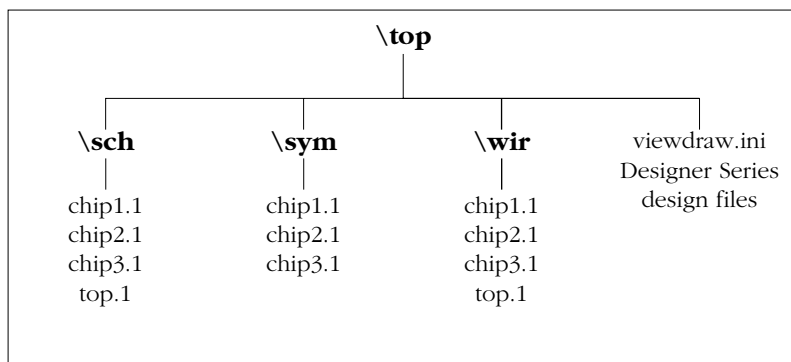

Figure 4-1. Directory Structure for Multichip Simulation
1. **Create a top level schematic and instantiate the individual chip designs.** This example, assumes there are three designs with instance names “chip1,” “chip2,” and “chip3.” The name of the top level schematic is “top.” Figure 4-1 depicts the directory structure for this example. Names written in normal text represent file names and those in bold text represent directory names.